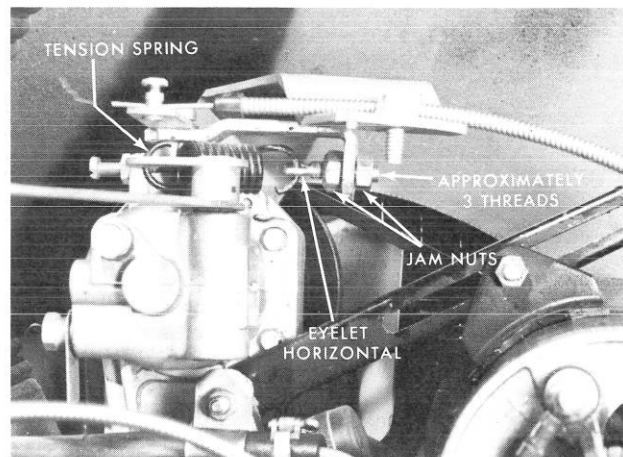

Figure 39
10. If the drop in speed between no-load and full load is too great, loosen the lock nuts and add tension to the spring (Figure 39) by lengthening the spring 1/32". Bring engine back to original speed with throttle lever. Repeat this procedure as required.